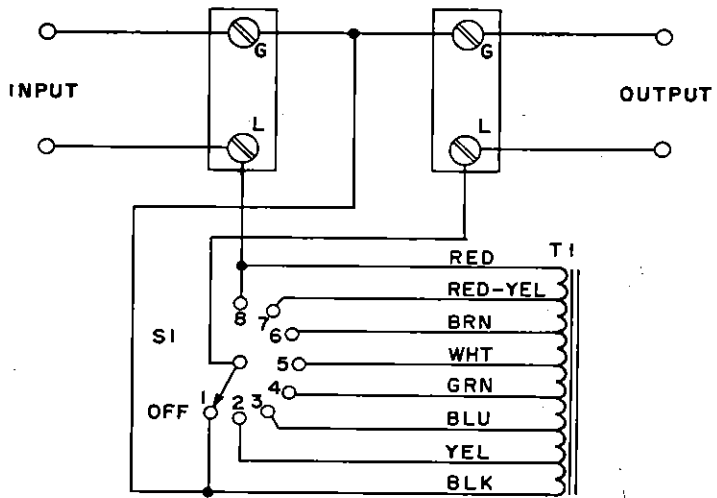

Figure 4. Schematic Diagram
6. Mount the Power Timer (using the key-hole slot at rear of timer cabinet, and No. 8 wood screw) on any convenient wall. Make connections as shown in *Figure 4*. **NOTE:** Wiring should conform to the local code. Knockouts are provided for standard 1/2 inch rigid or flexible conduit and fittings.